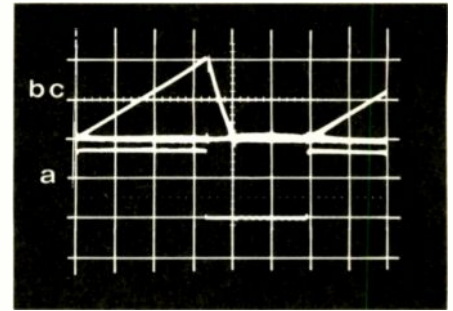

Fig.4. Choke charge and discharge currents (a) oscillator output/at 5 V/div; (b) choke charge current at 0.5 A/div; (c) choke discharge current at 0.5 A/div.
$V_d$  being the forward bias voltage of the diode  $D_1$ . For Fig.4 a 0.1 ohm resistor was temporarily placed in series with  $D_1$  and a pair of differential probes connected across it to show the discharge current. Superimposed on this is the charge current waveform derived from the voltage on the 0.1 ohm resistor in series with  $Tr_2$ 's source, giving a good illustration of how closely equivalent are the peaks of the charge and discharge currents in the choke and how close to linear are the slopes for these currents. Taking  $V_d$  as 0.4 V for a Schottky diode, equations (9) and (10) indicate a  $T_d$  value for Fig.2 of 8.2  $\mu$ s, some 7.7  $\mu$ s being observed.